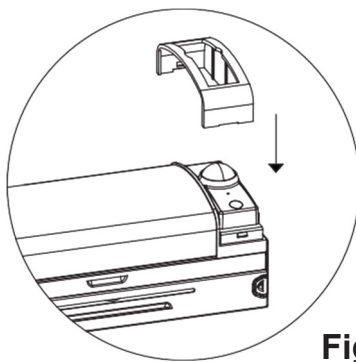

Fig. 5
1. Insert the provided chips (4 pcs) onto the wire guard. (**Fig. 5**)
5. Attach the included sensor bracket cover. (Fig. 5)